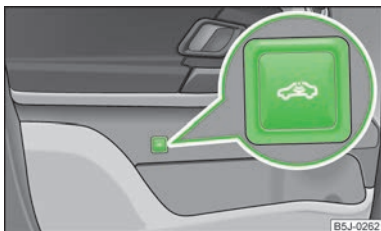

Fig. 15
- › Press the button  » Fig. 15 in the driver's door.